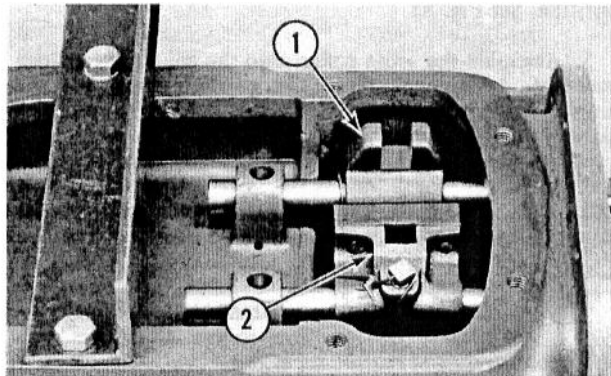

Fig. 56 — Gearshift Selectors
d. Lock wires and setscrews from shift rails securing selectors to the rails. See Fig. 56.